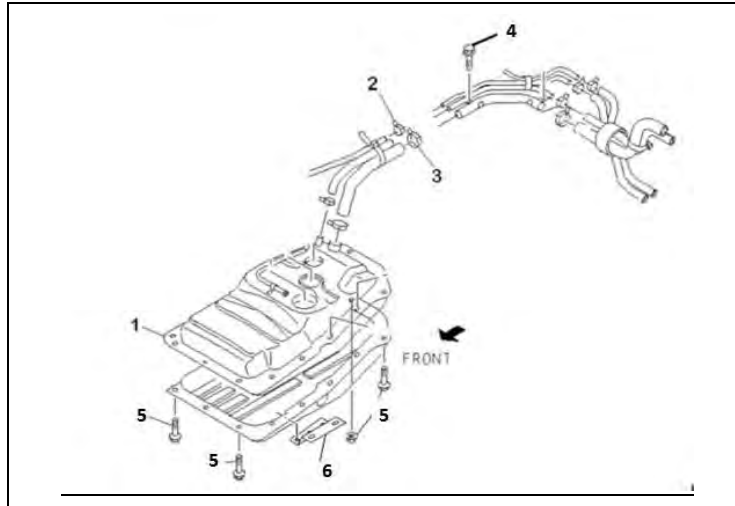

Figure 97
- d. Install fuel tank. Install new parts at locations 2, 3 and 5 as shown in Figure 97.